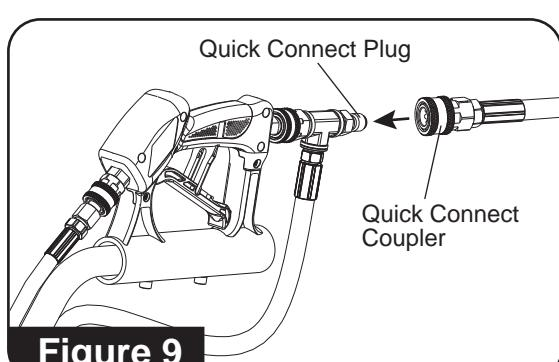

Figure 9
9. Insert the quick connect coupler of the pressure hose onto the quick connect plug on the trigger. (See Figure 9)